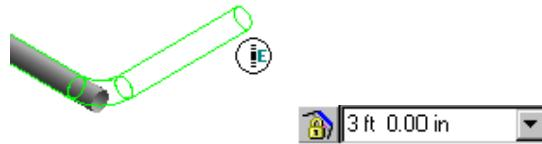

Figure 22: Routing Pipe in East Direction
18. Position the cursor in the east direction until SmartSketch displays the **E** glyph, as shown in Figure 22.